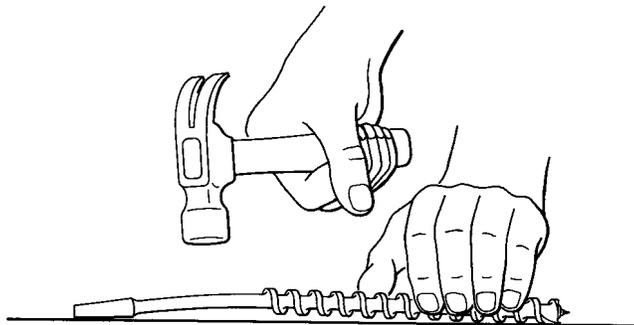

**Fig. 8 — Sharpening the Cutter**
**5.06** To resharpen a cutter, rest the bit on a board with the screw down so the cutting edge is parallel with the edge of the board. See Fig. 8. Sharpen the cutting edge, using light strokes, to a straight line keeping the bevel as near as practical the same as it was when new.